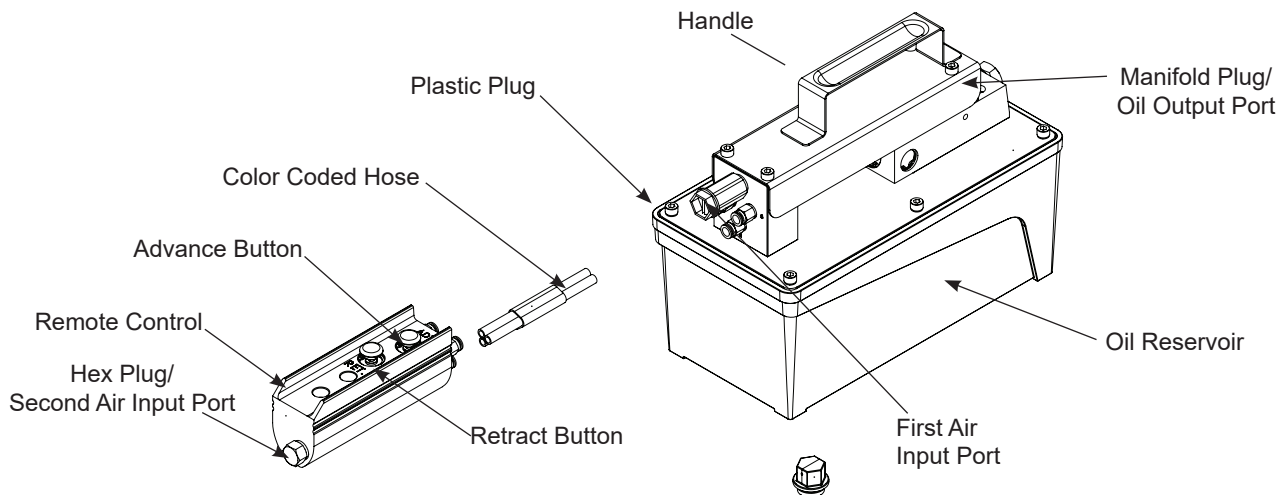

Figure 1 - Model PA1500LA, PA1500L & PA3801L Components (PA1500L shown)
1. Air connection: Remove plug from first or second air input port (refer to figure 1) and connect to adequate air supply. Install hex plug on unused air input port to prevent air leakage.